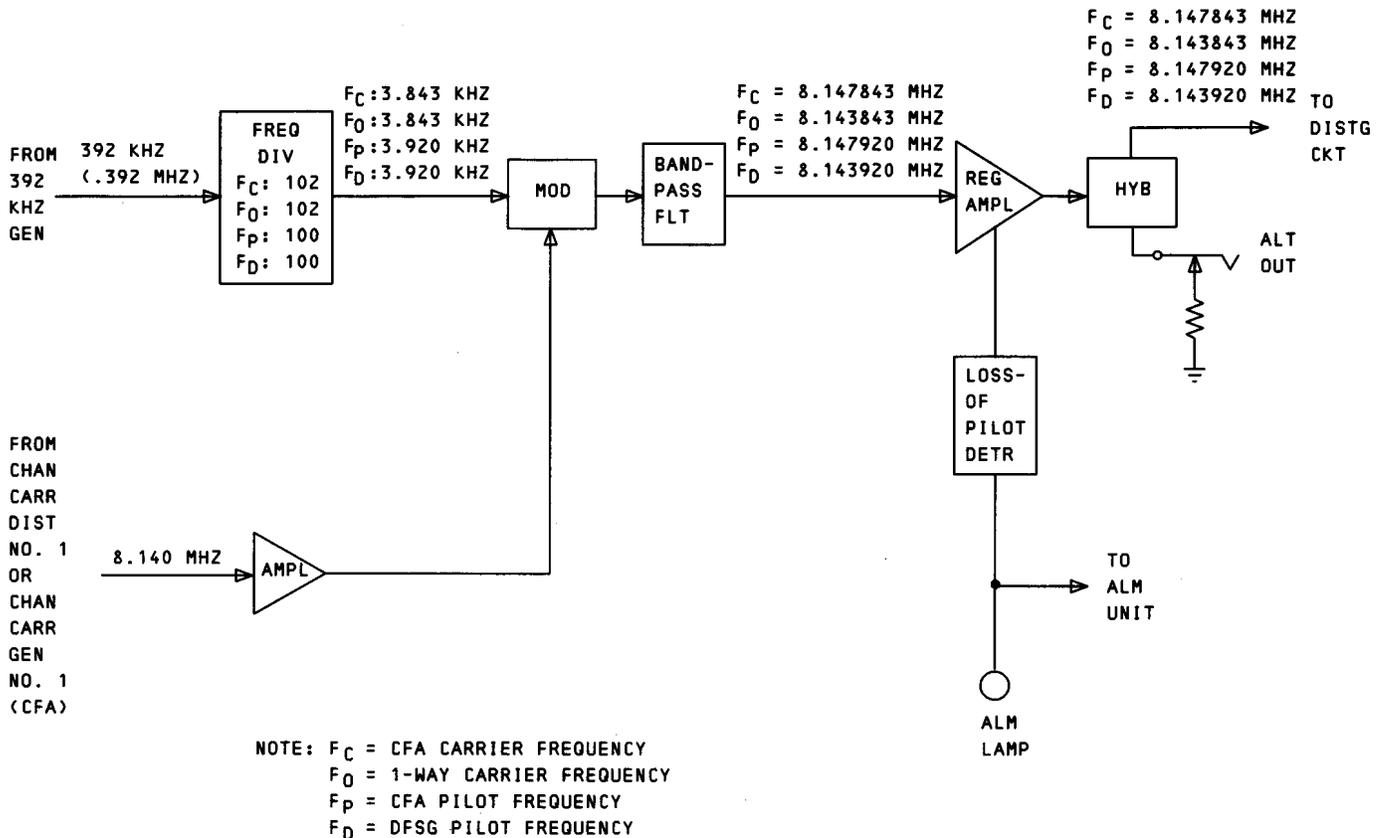

Fig. 14—CFA Carrier, One-Way Carrier, CFA Pilot, or DFSG Pilot Generator—Block Diagram
B. As shown in Fig. 14, the basic generator circuit consists of a 392-kHz frequency divider, an 8.140-MHz amplifier, a modulator, a bandpass filter, a regulating amplifier, and a hybrid transformer. In addition, an alarm detector and lamp circuit are provided in each generator unit.